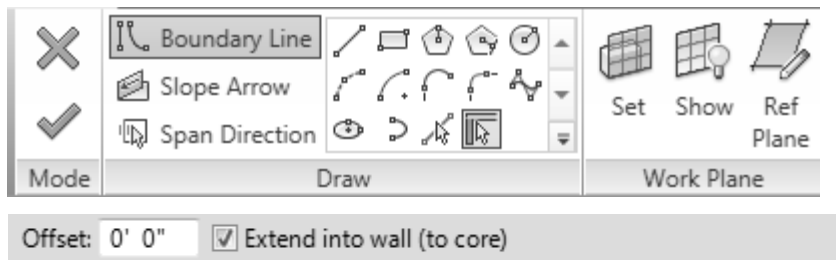

FIGURE 7-3.2 Floor tool; ribbon and options bar settings
7. Make sure the *Ribbon* and *Options Bar* match the settings shown in Figure 7-3.2.